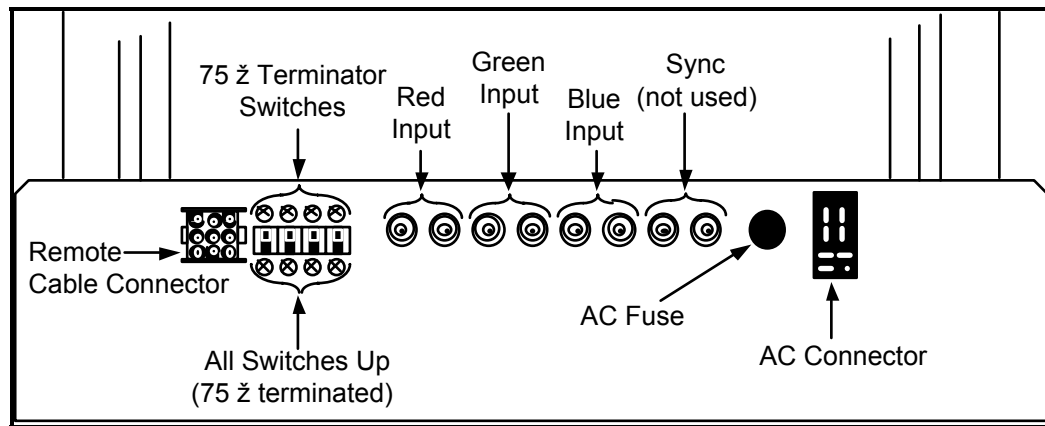

Figure 4-2 — CRT Monitor Rear Panel
1. Ensure that the power cord is plugged in and supplying power. Check the fuse on the back of the chassis (see Figure 4-2).